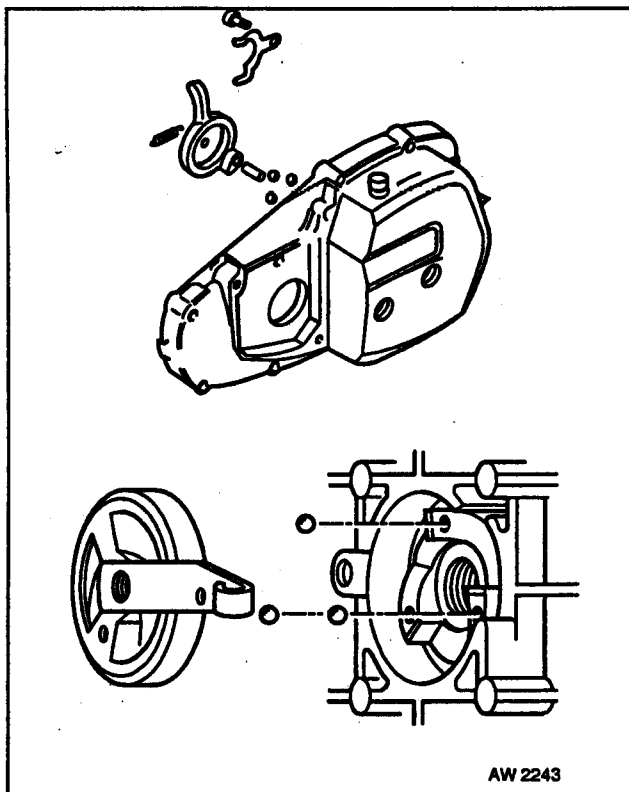

Fig 2.31 Clutch Release Mechanism
- a. The clutch release mechanism is installed on the inside of the clutch cover assembly and is assembled as illustrated in Fig 2.31.